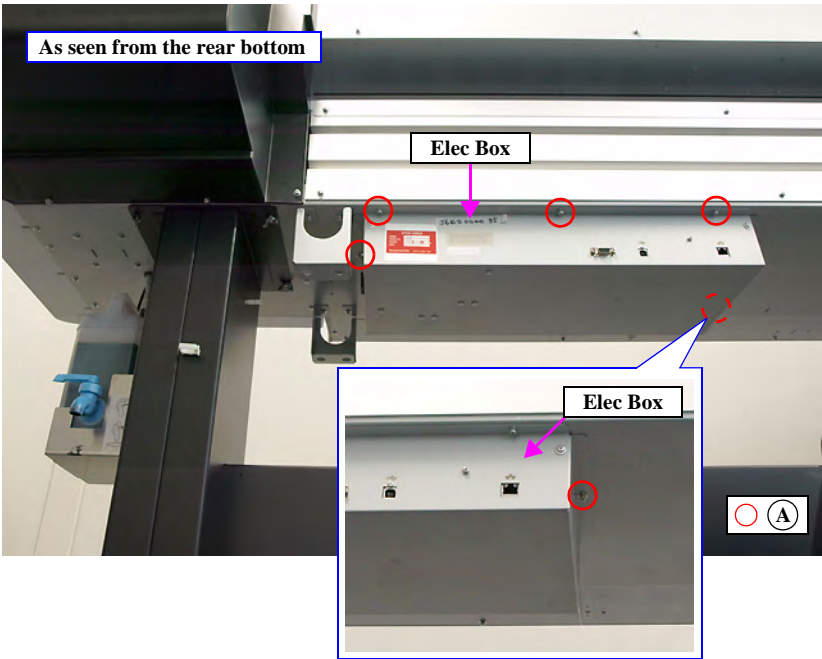

Figure 4-57. Opening the Elec Box
1. Remove the five screws and open the Elec Box. *See Figure 4-57.*